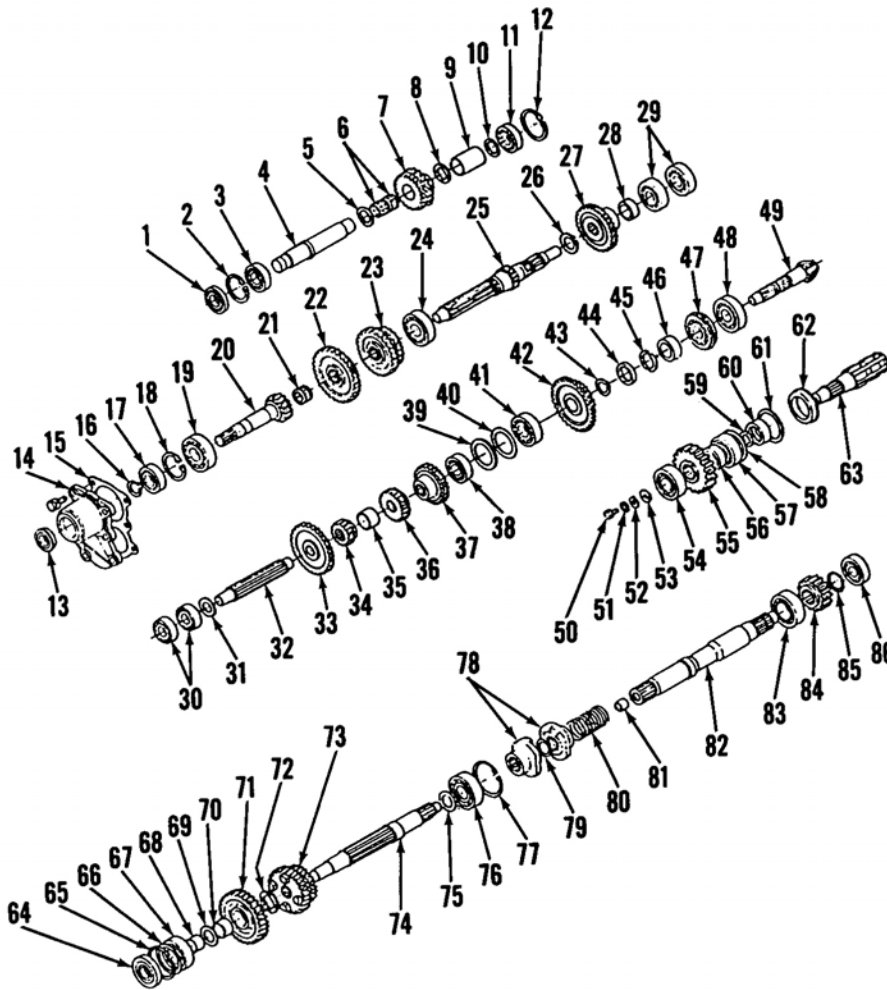

Fig. 78 — Exploded view of transmission gears, shafts and other components used on Model B6100E.
Inspect all components for excessive wear and damage. On Models B6100D, B6100E and B7100D, inside diameter of bushing (70 — Fig. 78 or Fig. 79) should be 20.00-20.02 mm (0.7874-0.8661 inch). Diameter of third shaft (74) at bushing running area should be 19.97-20.02 mm (0.7862-0.8661 inch). Clearance between shaft and bushing should be 0.02-0.06 mm (0.0008-0.0024 inch). Renew all parts as needed.